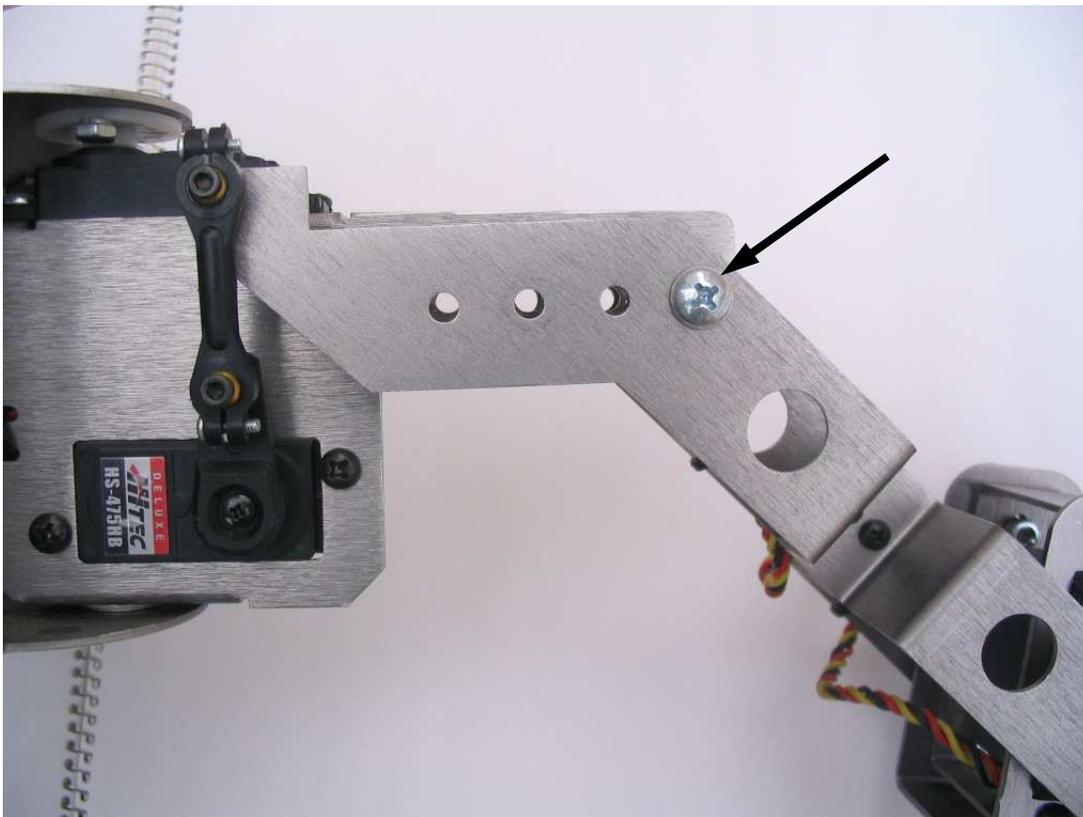

Figure 2 - Pivot Point Selection
2. The pivot point chosen when attaching the leg assembly to the servo holder using the #8 screw is critical to the servos you have with your kit (pages 36 and 37). It is recommended that either of the last (2) holes located towards the end (right side – see figure 2 below)) of the servo holder be used with most analog servos (Hitec HS475 and HS645 servos). All other pivot points are to be used with high torque, digital servos only (such as the Hitec HSR5995TG or HS5955TG). Do not use the pivot point illustrated on pages 36 and 37 unless you are using the digital servos listed above.